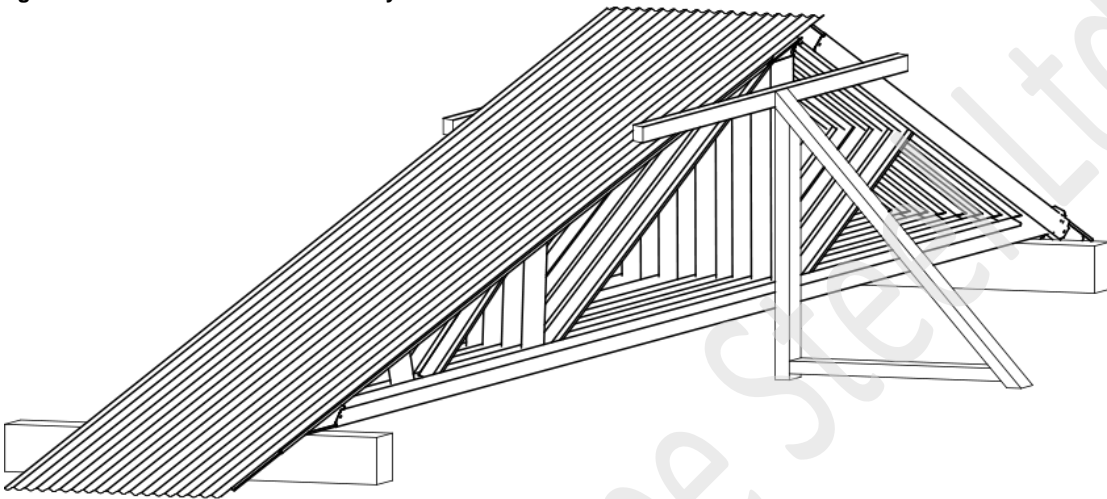

Figure 2.3 Trusses stacked vertically
2. If the trusses are stored vertically as shown in Fig. 2.3, they should be supported at the designed support locations or bottom chord panel points, and in a manner that will be prevented from tipping or toppling.